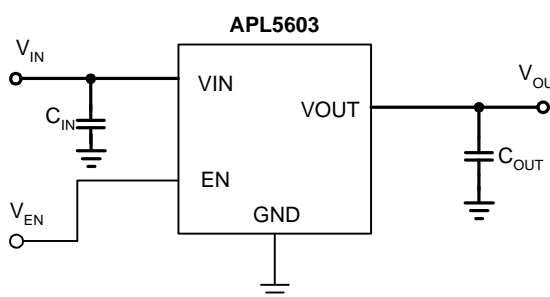

Figure 1.
Figure 1 illustrates the layout. Below is a checklist for your layout:
4. Large current paths, the bold lines in figure 1, must have wide tracks.